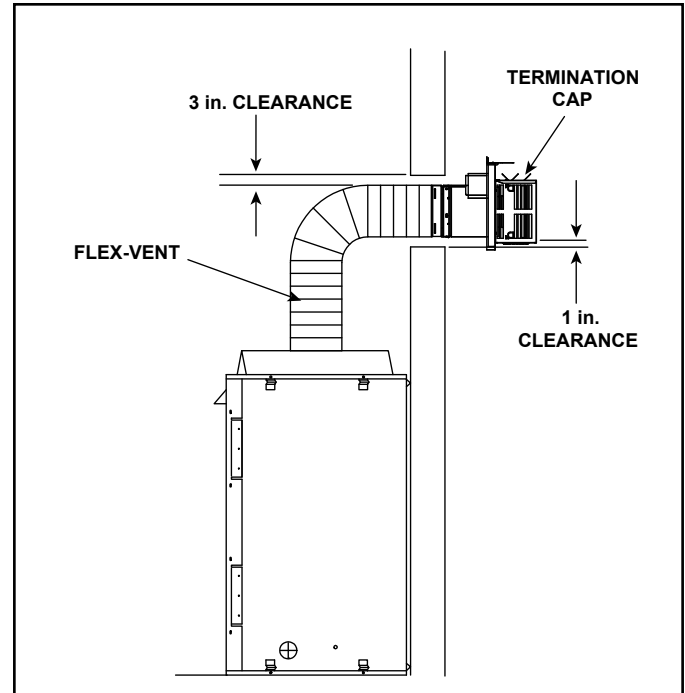

Figure 4.10 Flex Vent Pipe - Generic Fireplace Shown
A support is required at each change in venting direction, and in any location where it is necessary to maintain the necessary clearance to combustibles. A simple “up and out” installation (Figure 4.10) requires only enough support to maintain the necessary clearance to combustibles. However, the vent attachment point and the firestop location are considered to be supports.
**Note:** There MUST be a 25% reduction in total H when using SLP-FLEX Series (6-5/8 inch) vent except when using the simple up and out installation. See Figure 4.10.
**Note:** There **MUST** be a 25% reduction in total H when using SLP-FLEX Series (6-5/8 inch) vent except when using the simple up and out installation. See Figure 4.10.